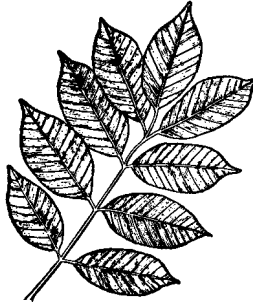

FIGURE 26. Poison Sumac
- c. Poison Sumac—see Figure 26.